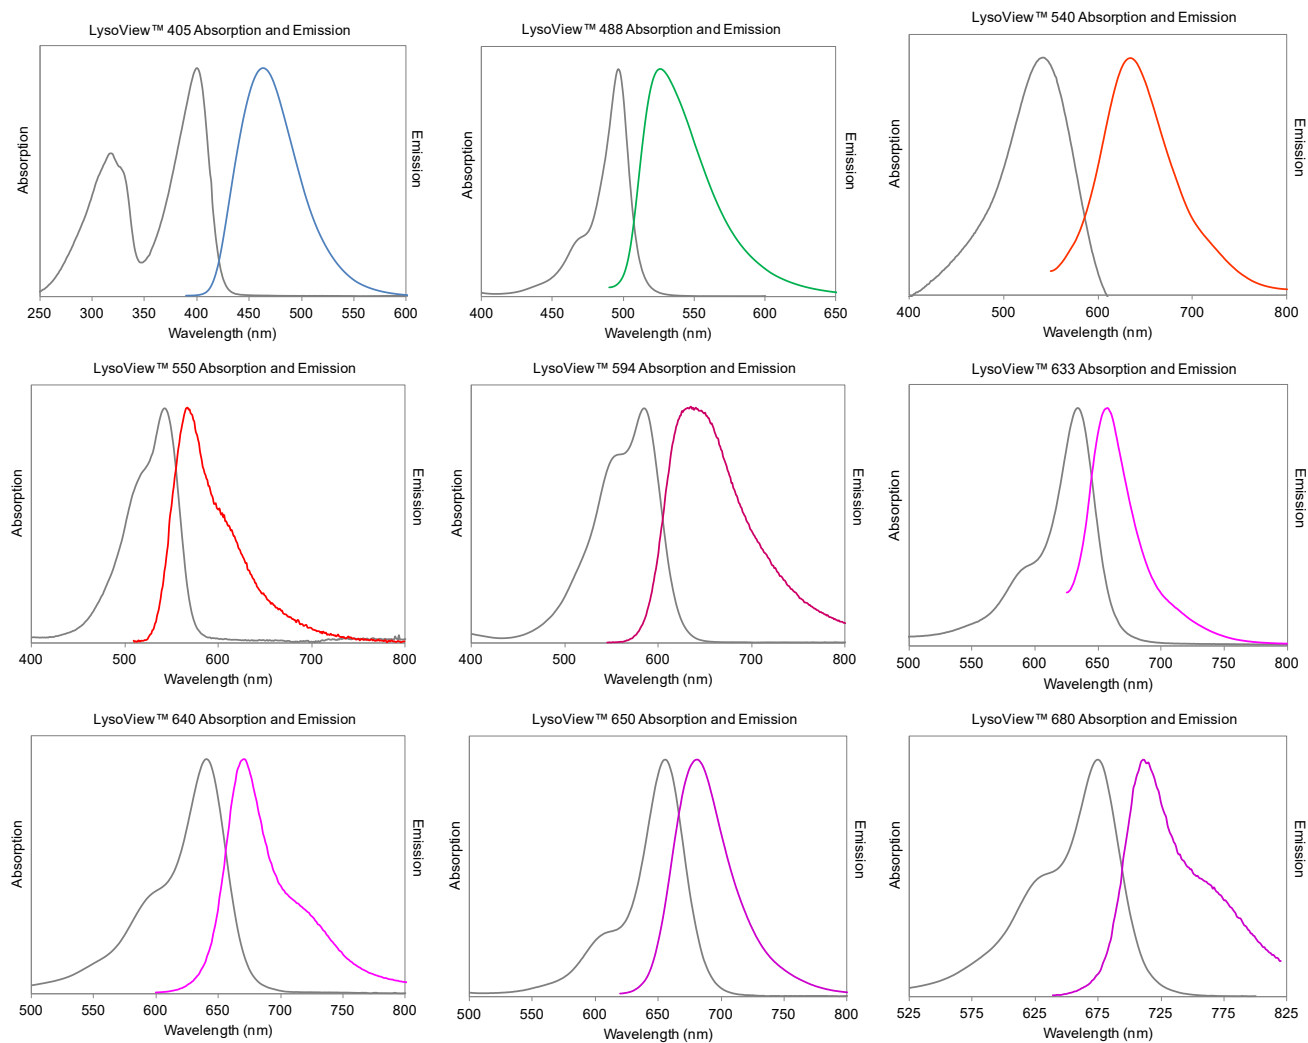

Figure 1. Normalized absorption and emission of LysoView™ dyes at pH ~5.
** Spectral properties at pH ≤ 5. See Figure 1.